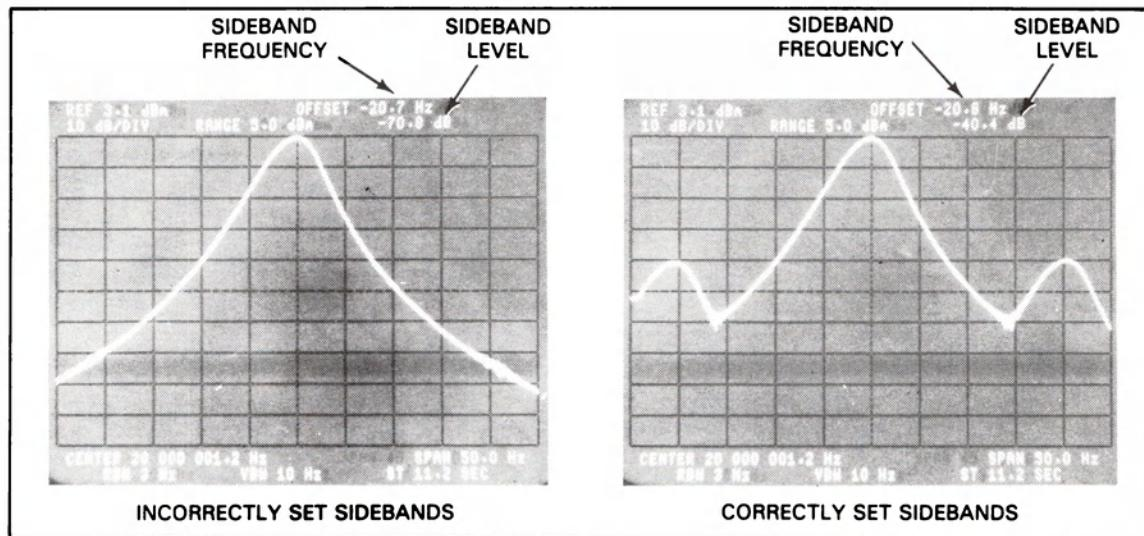

Figure 7-19. AM Discrete Tone Accuracy Test Adjustments
- g. Adjust the -hp- 3312A amplitude until the 20 Hz sidebands are approximately 40 dB below the 20 MHz carrier. (See Figure 7-19)